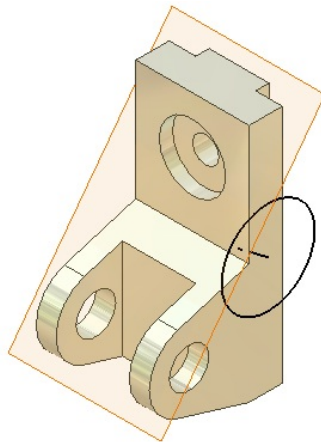

Figure 5-24 Resulting work plane
1. The size of the work plane in Figure 5-24 has been modified to improve its clarity. The work planes are the planes which are constructed with respect to the features. The size displayed on the graphics screen is just for reference. To resize a work plane, move the cursor over one of its corners and then click.